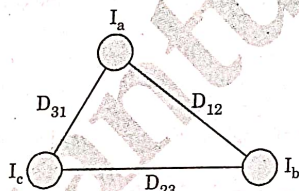

Fig. 4.5.1.
1. Consider a single circuit 3 ϕ system as shown in Fig. 4.5.1. The three conductors are unsymmetrically placed i.e., $D_{12} \neq D_{23} \neq D_{31}$ and each conductor has a radius of r meters.